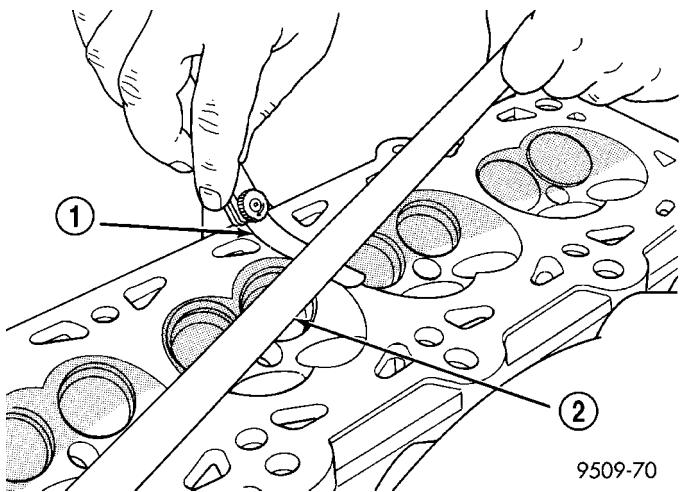

Fig. 14 Checking Cylinder Head Flatness
- (1) Cylinder head must be flat within 0.1 mm (0.004 in.) (Fig. 14).
- (2) Inspect camshaft bearing journals for scoring.